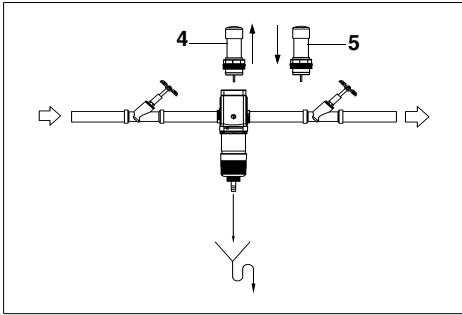

Fig. 13: Cartridge exchange III
4. Lift the empty phosphate cartridge (4) out of the device (see fig. 13).
5. Insert the new phosphate cartridge (5) into the device.